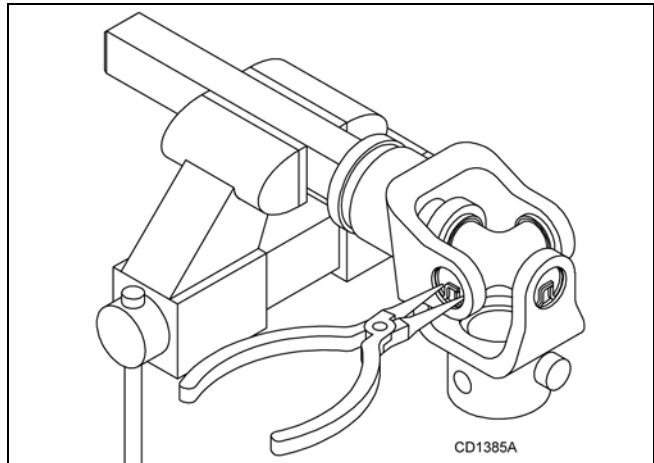

Figure 25. Remove Snap Ring
1. Remove external snap rings from yokes in four locations as shown in Figure 25.